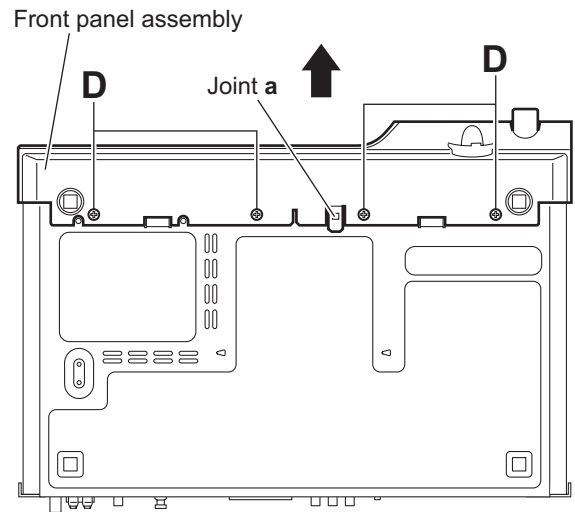

Fig.5
- (3) From the bottom side of the main body, remove the four screws **D** attaching the front panel assembly. (See Fig.5)
- (4) Remove the front panel assembly in the direction of the arrow while releasing the joint **a**. (See Fig.5)